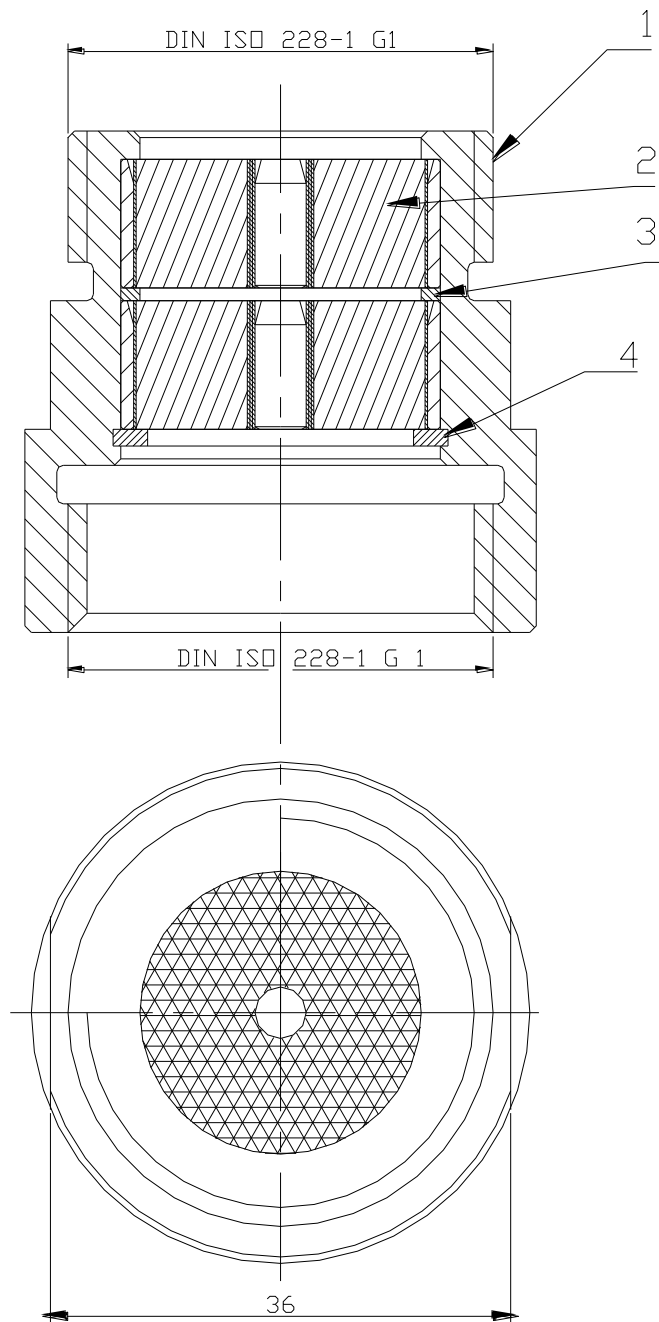

Fig. 2
(See figure 2)
(See fig.2)
- Spare part no. (Please refer to **fig. 2** for items)